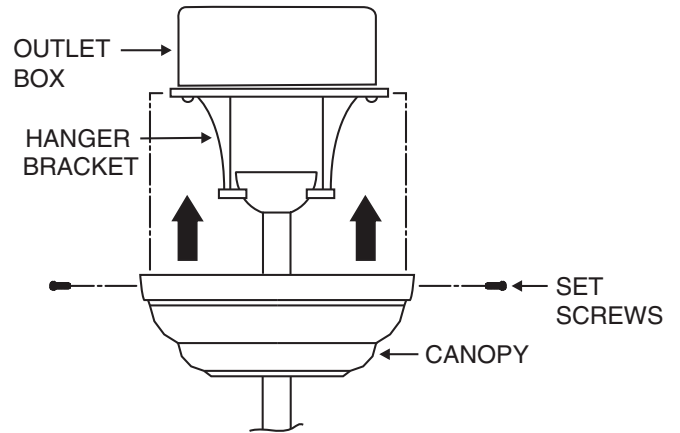

FIGURE 9
2. Slide the canopy up to mounting bracket and secure by tightening the two set screws. (Fig. 9)